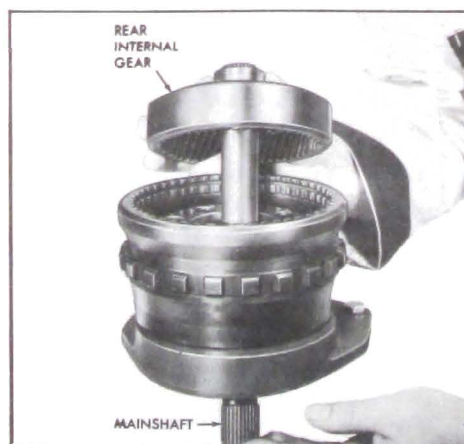

Figure 5-566
12. Remove rear internal gear and mainshaft. See Figure 5-566.